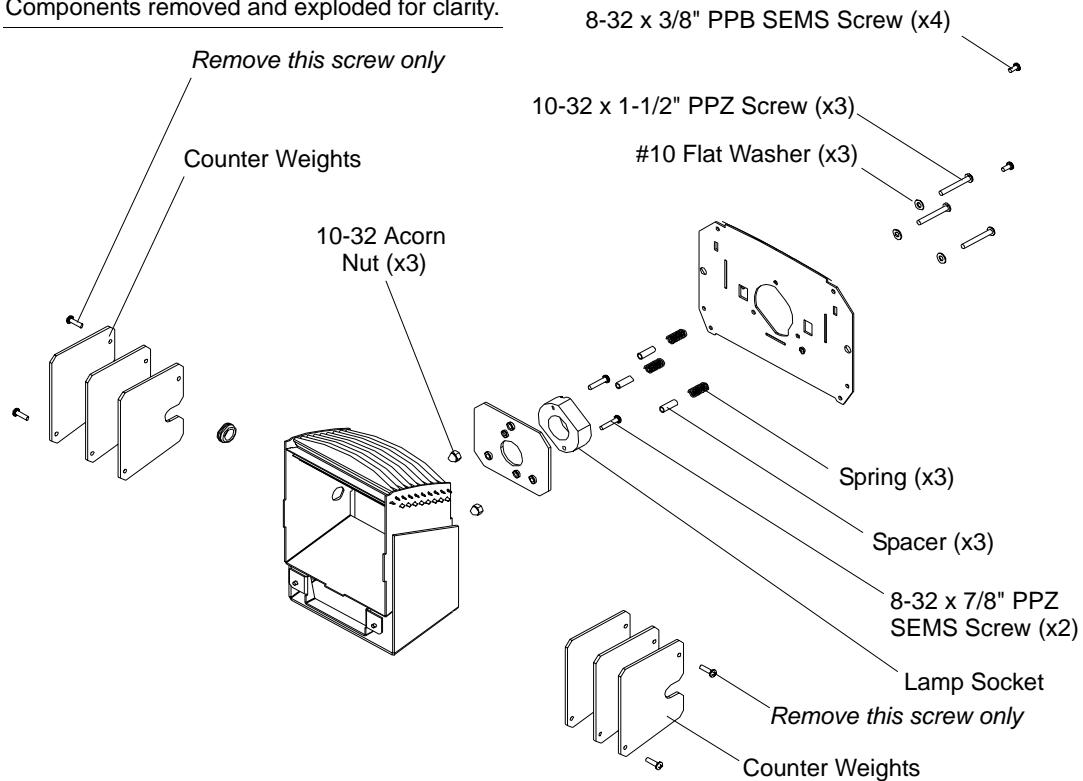

Figure 2-28: Lamp Socket Removal
Step 9. As shown in Figure 2-28 on page 44, at each side:
- Step 5. As shown in Figure 2-28 on page 44, at each side: